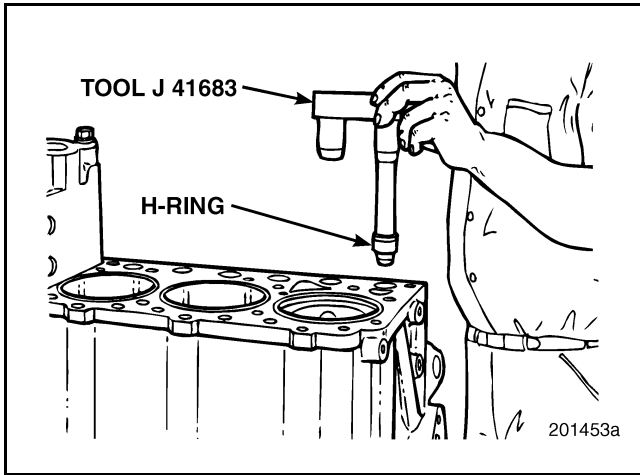
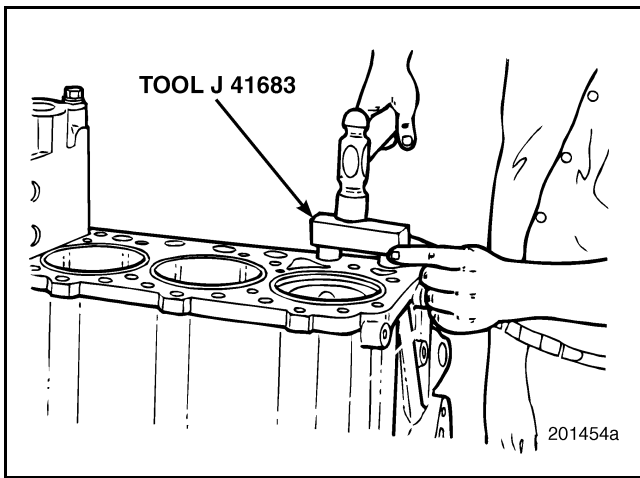

Figure 196 — H-Ring Installation Tool
Figure 197 — H-Ring Installation
4. Use service tool J 41683 to install the H-ring. This tool pilots into two lifter bores at the same time to properly align and install the H-ring. If the proper interference fit has been maintained, resistance should be felt as the H-ring is driven into the bore. Refer to Figure 196 and Figure 197.